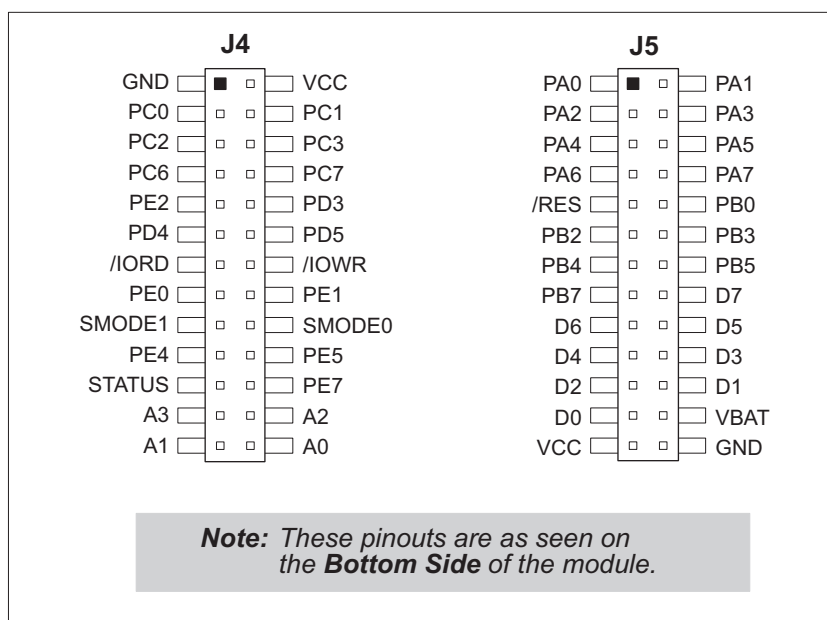

Figure 1. RCM2300 Pinout
The RCM2300 modules have two 26-pin headers to which cables can be connected, or which can be plugged into matching sockets on a production device. The pinouts for these connectors are shown in Figure 1 below.
- **Module Extension Headers**—The complete pin set of both the master and slave modules is duplicated at these two sets of headers. Developers can solder wires directly into the appropriate holes, or, for more flexible development, 0.1" pitch 26-pin header strips can be soldered into place. See Figure 1 for the header pinouts.